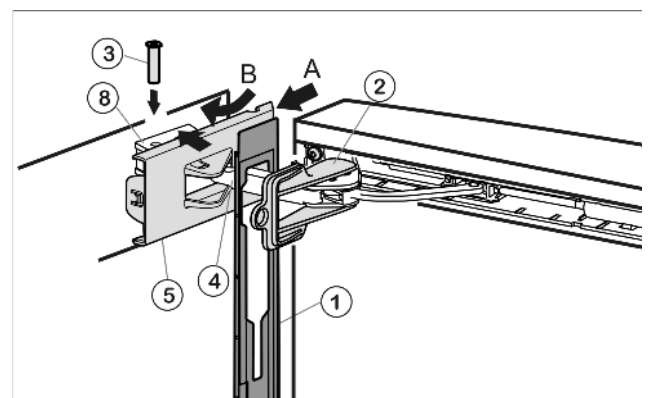

Fig. 57
- ▶ Hook panel *Fig. 57 (1)* into the damper bracket *Fig. 57 (4)* such that the detent hooks are pointing inwards and the front side is facing the appliance.
- ▶ Push on cover *Fig. 57 (5)* from the outside (A) and pivot over the bearing part *Fig. 57 (8)* (B).
- ▶ Place cover *Fig. 57 (5)* on top and allow to snap into place until the first notch.
- ▶ Pull damper bracket *Fig. 57 (4)* towards bearing part and insert bolt *Fig. 57 (3)* from above such that the square head is resting in the recess.
- ▶ Now snap cover *Fig. 57 (5)* completely into place on the bearing part *Fig. 57 (8)*.
- ▶ Remove locking device *Fig. 57 (2)* by twisting it.
- ▶ Snap panel *Fig. 57 (1)* into place on the door.